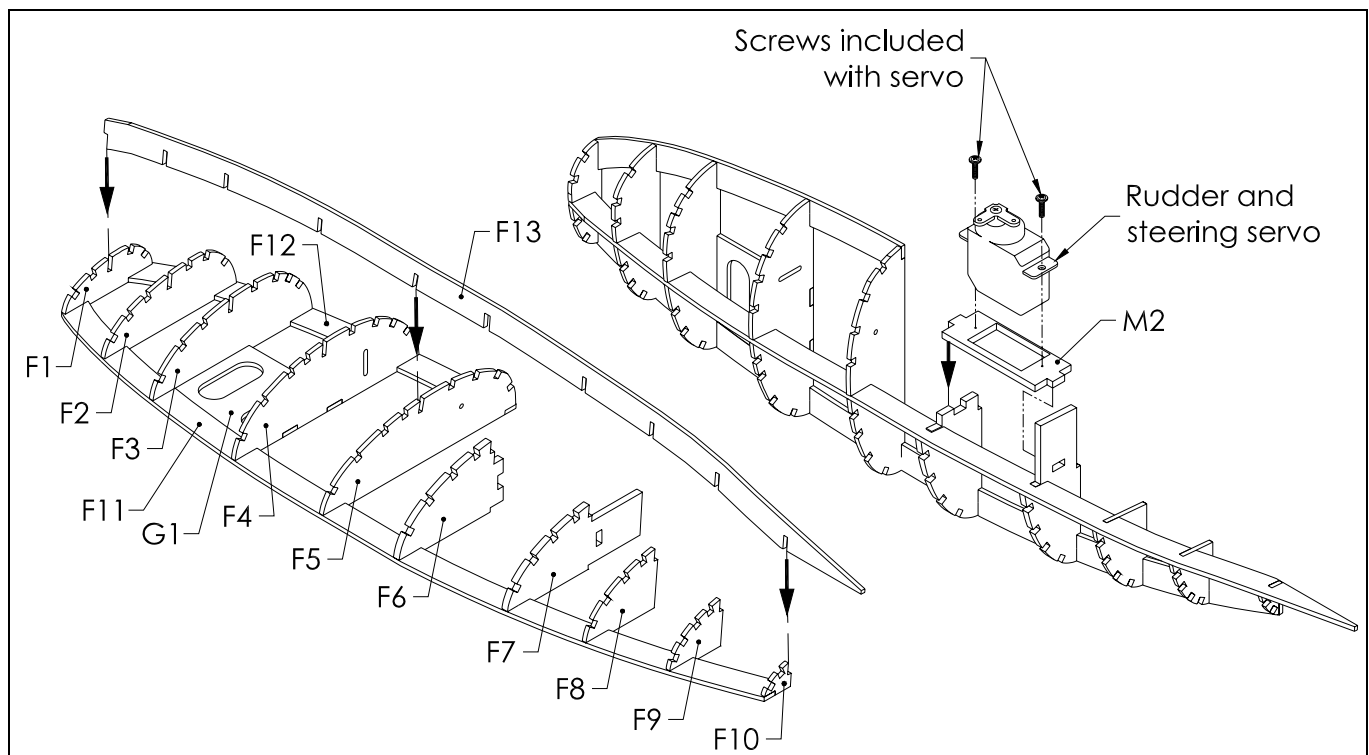

Figure 11
- ❑ Glue servo mount **M2** to **F6**, and **F7** as shown in Figure 11. Note **M2** is **NOT** installed in the “**Right Fuselage Half**”.
- ❑ Install the rudder and steering servo with the mounting screws included with the servo. Note the orientation shown in Figure 11. The servo arm should be trimmed/modified to an “L” shape; this matches the arm shown in Figure 11.